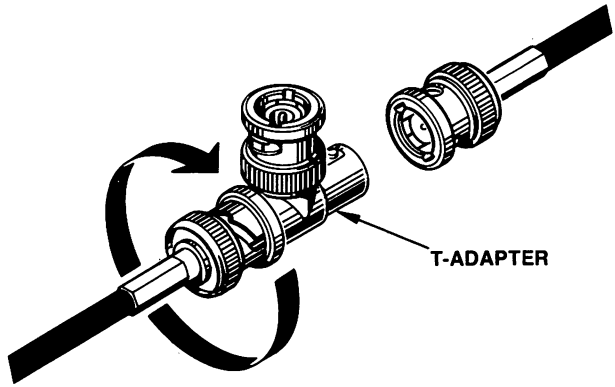

Figure 2-13. Attach a length of Thin-Cable Ethernet to either end of the T-adapter.
15. Connect a length of Thin-Cable Ethernet to one end of the T-adapter, as shown in Fig. 2-13.
- See Fig. 2-13 to locate the slots on the connector attached to the cable. Slide the posts into these slots.